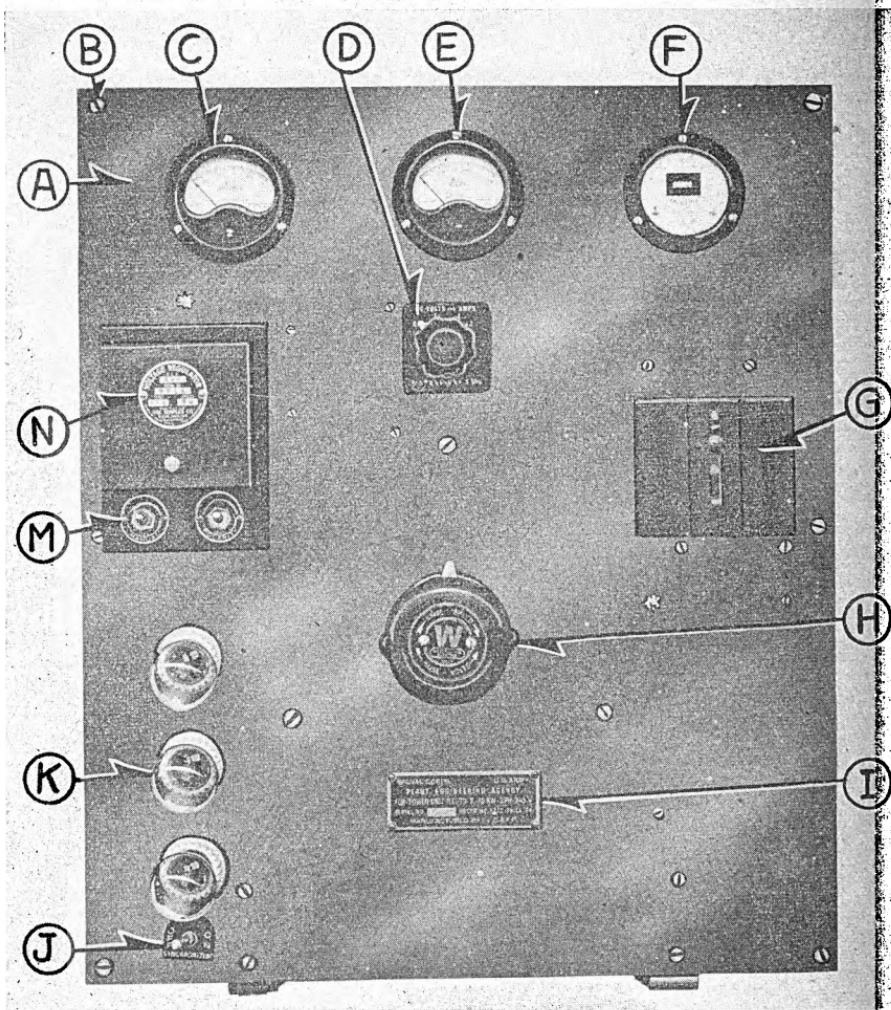

Figure 3. Control Panel, front view.
c. **Power Control Panel (fig. 3).** Constructed of steel and mounted on a welded steel frame, the power control panel contains the indicating instruments, the necessary controls, and the wiring for the control and regulation of the alternator. Special lamps [K] which are used to indicate synchronization of parallel alternators (if used) are located on the control panel. The main circuit breaker [G] is designed to open the power circuit automatically if an overload occurs. A multi-pole switch [D] is used to switch the alternator output to the voltmeter and ammeter so that voltages and currents on all three phases may be read on the meter scales. A frequency meter [F] indicates the cycles per second or frequency of the a-c output. It is of the vibrating-reed type showing the frequency directly on the instrument face by the presence of a dark vibrating surface adjacent to the frequency number printed on the scale. The voltage regulator [N] is adjustable; either manual operation or automatic operation may be selected by the use of a switch [M]. For manual operation,